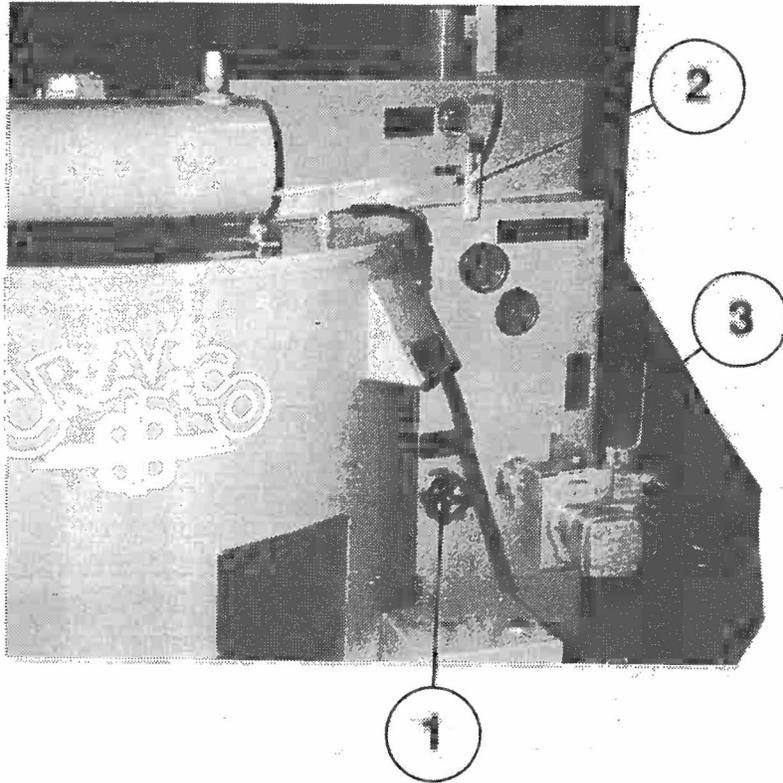

FIGURE 3
7. When sealant reaches correct application temperature, open main tank valve, open recirculation valve Fig. 3(2) and close applicator valve (in heat chamber). Put sealant pump in reverse (Suction) mode. When pump turns freely, reverse sealant pump flow (Discharge) Fig. 3(3). This circulates sealant back into tank.
11. Close the recirculation valve Fig. 3(2). **IMPORTANT:** Adjust the valve to get the desired amount of flow from the applicator wand given your applicator needs. You do not need to close the valve all the way for application. If material does not flow from wand, the hose may need to be warmed. Heat hose by placing in heating chamber to liquify sealant in hose, then repeat procedure.